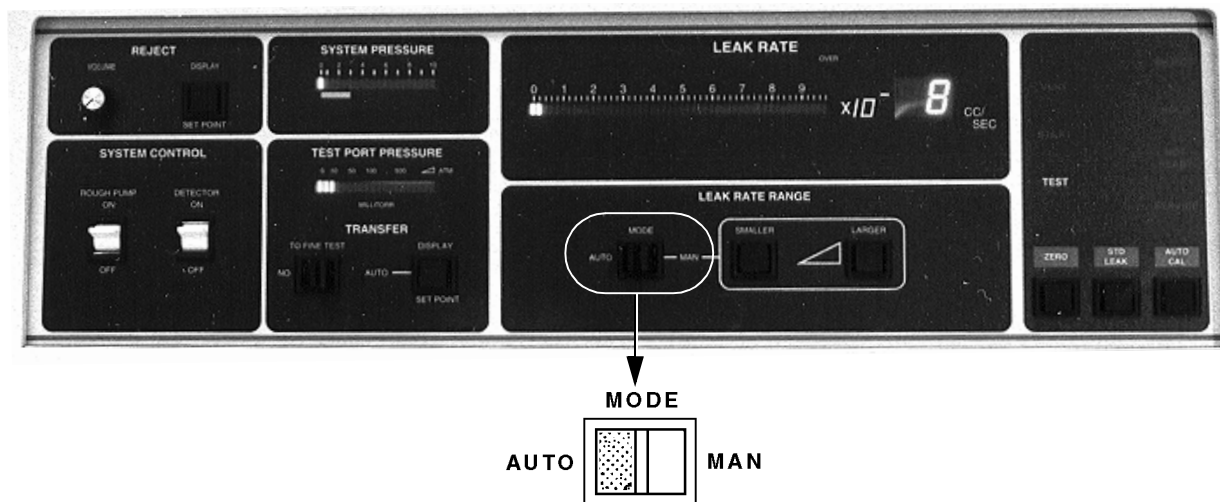

Figure 3-4 Location of AUTO/MAN MODE Switch
2. Select the **AUTO** (Figure 3-4) position of the AUTO/MAN MODE switch in the Leak Rate Range section.